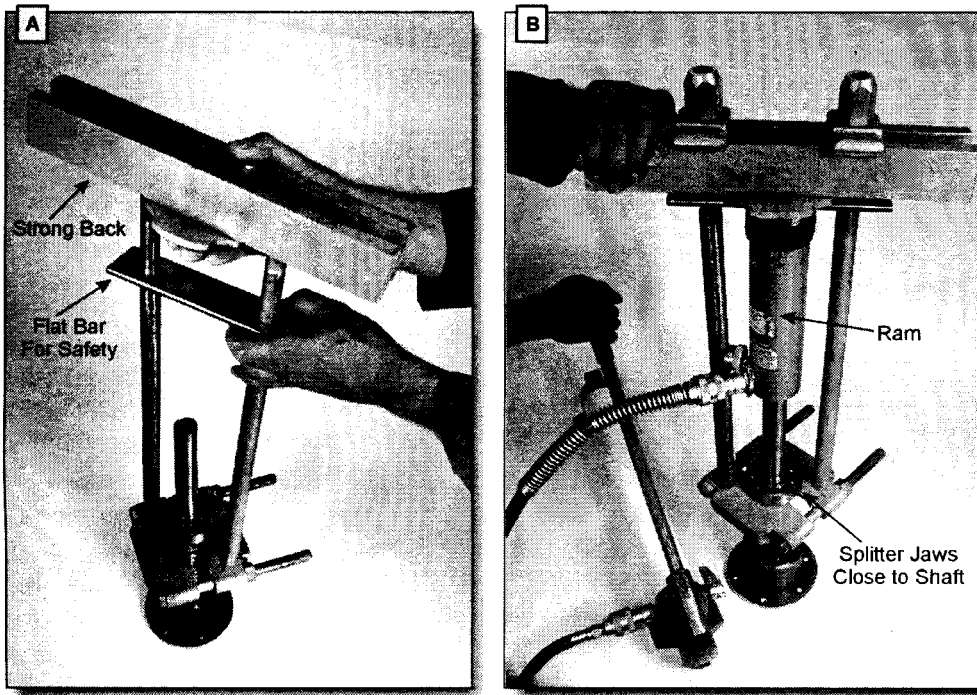

Figure 7 - Removal using a hydraulic jack.
Figure 7 shows the use of a hydraulic jack to pull a bearing. This is necessary on medium-sized bearings mounted on shafts that are either too long to fit in a press or are still in the machine. The following points should be observed when using this removal method.
- If at all possible, use a bearing splitter behind the bearing (Figure 7).
- To prevent the rods from spreading and the ram from coming out of the strong back, drill holes in a piece of flat bar and install it over the tie rods between the ram and the strong back (Figure 7).